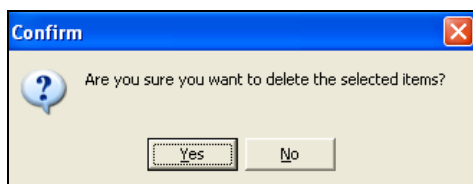

Figure 33.2.11
The **Confirm** screen will be displayed (Figure 33.2.11).
4. The **Confirm** screen will be displayed (Figure 33.2.11).
- The **Confirm** screen will be displayed (Figure 33.2.11).